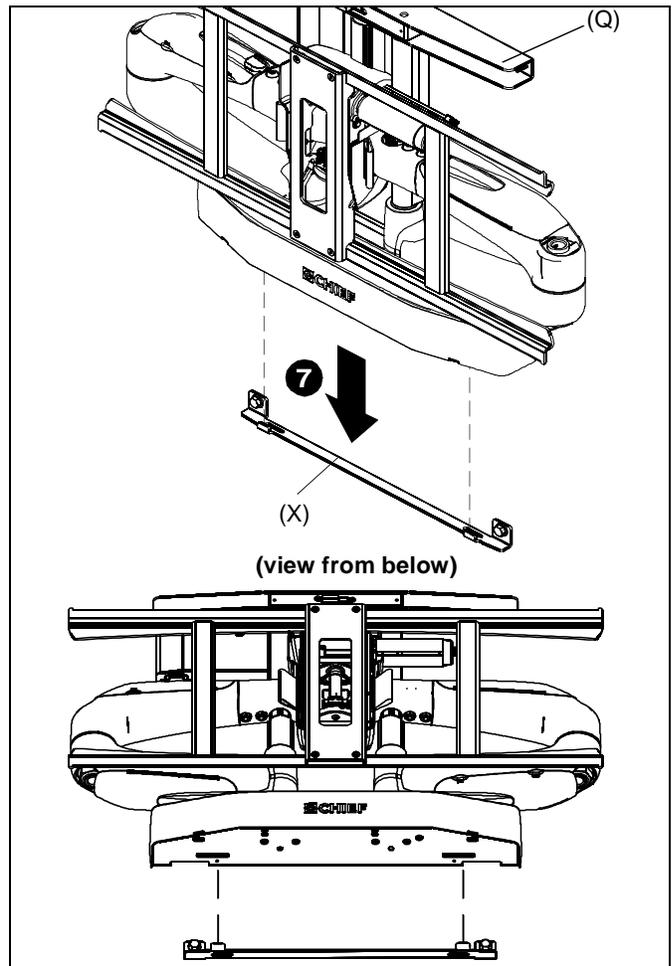

Figure 6
7. Lower PXR (Q) onto mounting bracket (X), ensuring PXR fits over mounting bracket tabs. (See Figure 6)
7. Lower PXR (Q) onto mounting bracket, ensuring PXR fits over mounting bracket (X) tabs. (See Figure 6)